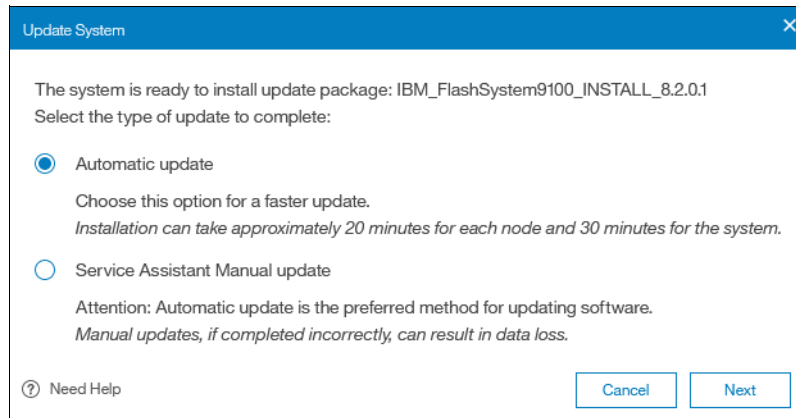

Figure 7-50 The update type selection
6. Select the type of update you want to perform, as shown in Figure 7-50. Select **Automatic update** unless IBM Support has suggested a **Service Assistant Manual update**. The manual update might be preferable in cases where misbehaving host multipathing is known to cause loss of access. Click **Next** to begin the update package upload process.